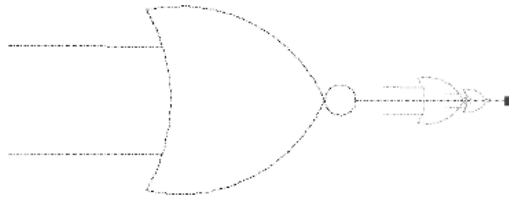

Figure 16-14 Different annotation scales associated to a single block
14. Select the block to which you had added the annotation scales; the preview of the block with all annotation scales associated to the block is displayed, as shown in Figure 16-14. The bigger block with the current annotation (1:8) scale is displayed with dark dotted lines and the smaller blocks with other annotation scales (1:1, 1:2) are displayed with the faded dashed lines.